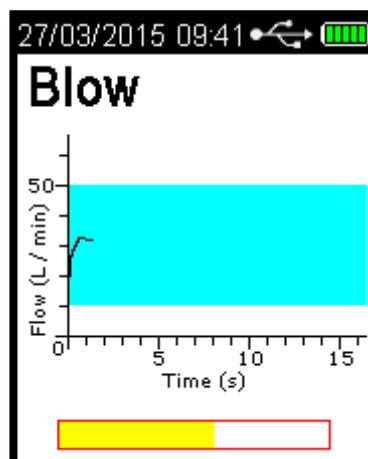

Figure 9 Sample Progress Bar
- The exhaled breath volume is indicated via a sample progress bar; scrolling left to right at the bottom of the screen and a graph showing air flow over time in seconds (Refer Figure 9).